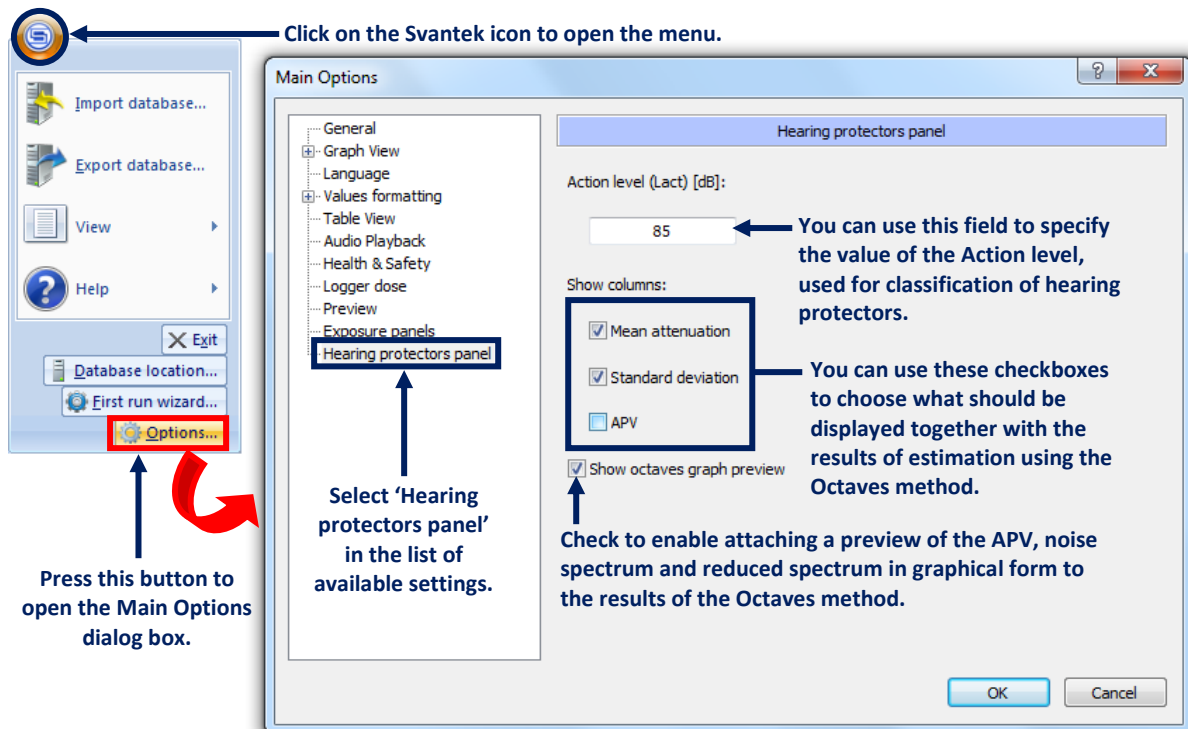

Fig.5-18 Modifying the Hearing protectors preferences in the Main Options dialog box.
You can choose which parameters of the hearing protector should be shown in the *Octaves method* part of the table. It can be specified in the *Hearing protectors panel* settings in the Main Options (Fig.5-18). The available parameters are:
**Note:** The classification is based on the value of the Action level, which can be specified in the Main Options dialog box (see Fig.5-18).